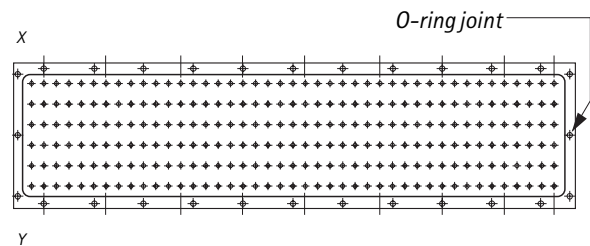

Figure 6b. Tube plate with a groove for an O-ring
- 4 Mount the header. Tighten the screws alternately on the X and the Y side towards the O-ring gasket joint, according to Figure 6b. Tightening torque: 70 Nm.